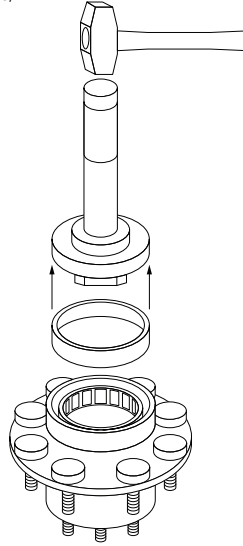

Figure 5
- 7.) Install the seal using the manufacturer's guidelines (see Figure 5).